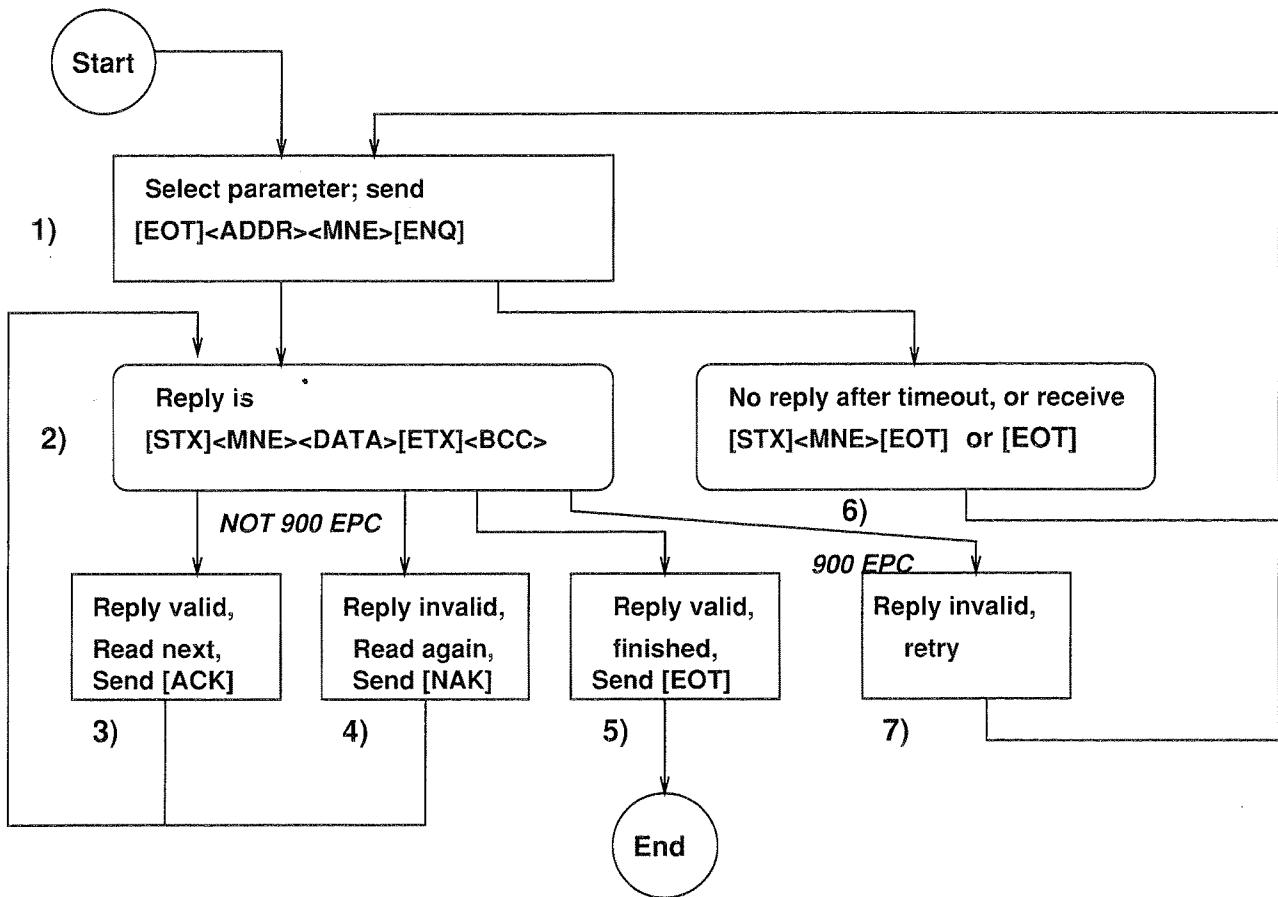

Figure 2: Reading Data from the 900 series
Figure 2 shows the sequence used for reading data from an instrument.
Step 1 in figure 2 is the enquiry step, where <ADDR> is the (GID) (GID) (UID) (UID) sequence, and <MNE> is the (C1) (C2) or (CN) (C1) (C2) sequence.
The data bytes are as described in section 2.4.5. <BCC> is a block checksum that is used to validate the data. It is computed by XORing (exclusive or) all the characters after and excluding [STX] and up to and including [ETX]. (Step 2 in figure 2).
Invalid response If the reply is invalid (either the block sum check is wrong, the received mnemonic is not the one asked for, or the data bytes are in an invalid format) then the whole read request can be retransmitted (step 7 in figure 2) or for the 902, 903 and 904 instruments only a [NAK] sent, which will cause the instrument to retransmit the reply, (step 4 in figure 2).
No reply or request rejection If no reply or only a partial reply is received after a suitable time out period then the read request should be retried (step 6 in figure 2). The instrument may not reply if
The read request can then be retried (step 6 in figure 2) or another mnemonic chosen.
Fast poll list If the reply is valid, the 902, 903 and 904 series support a read next parameter "fast poll" or "scroll mode" facility. An instrument, once selected, will return the values of a list of parameters; the next parameter in the list can be read by sending an [ACK] (step 3 in figure 2). This list can be treated as a "circular buffer" of parameters so that eventually the first parameter read will be re-read.
Termination If the reply is valid and no more action is to be taken, an [EOT] should be sent to deselect the instrument (step 5 in figure 2). Sending of the [EOT] can be omitted if the next action is to select another instrument because an [EOT] will be sent then (step 1 of figure 2).